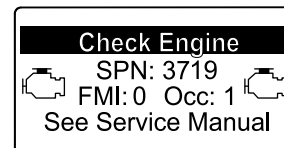

Figure 52
- If a recovery regeneration is needed, the InfoCenter displays engine warning SPN 3719, FMI 16 (Figure 52) and the engine computer derates engine power to 85%.